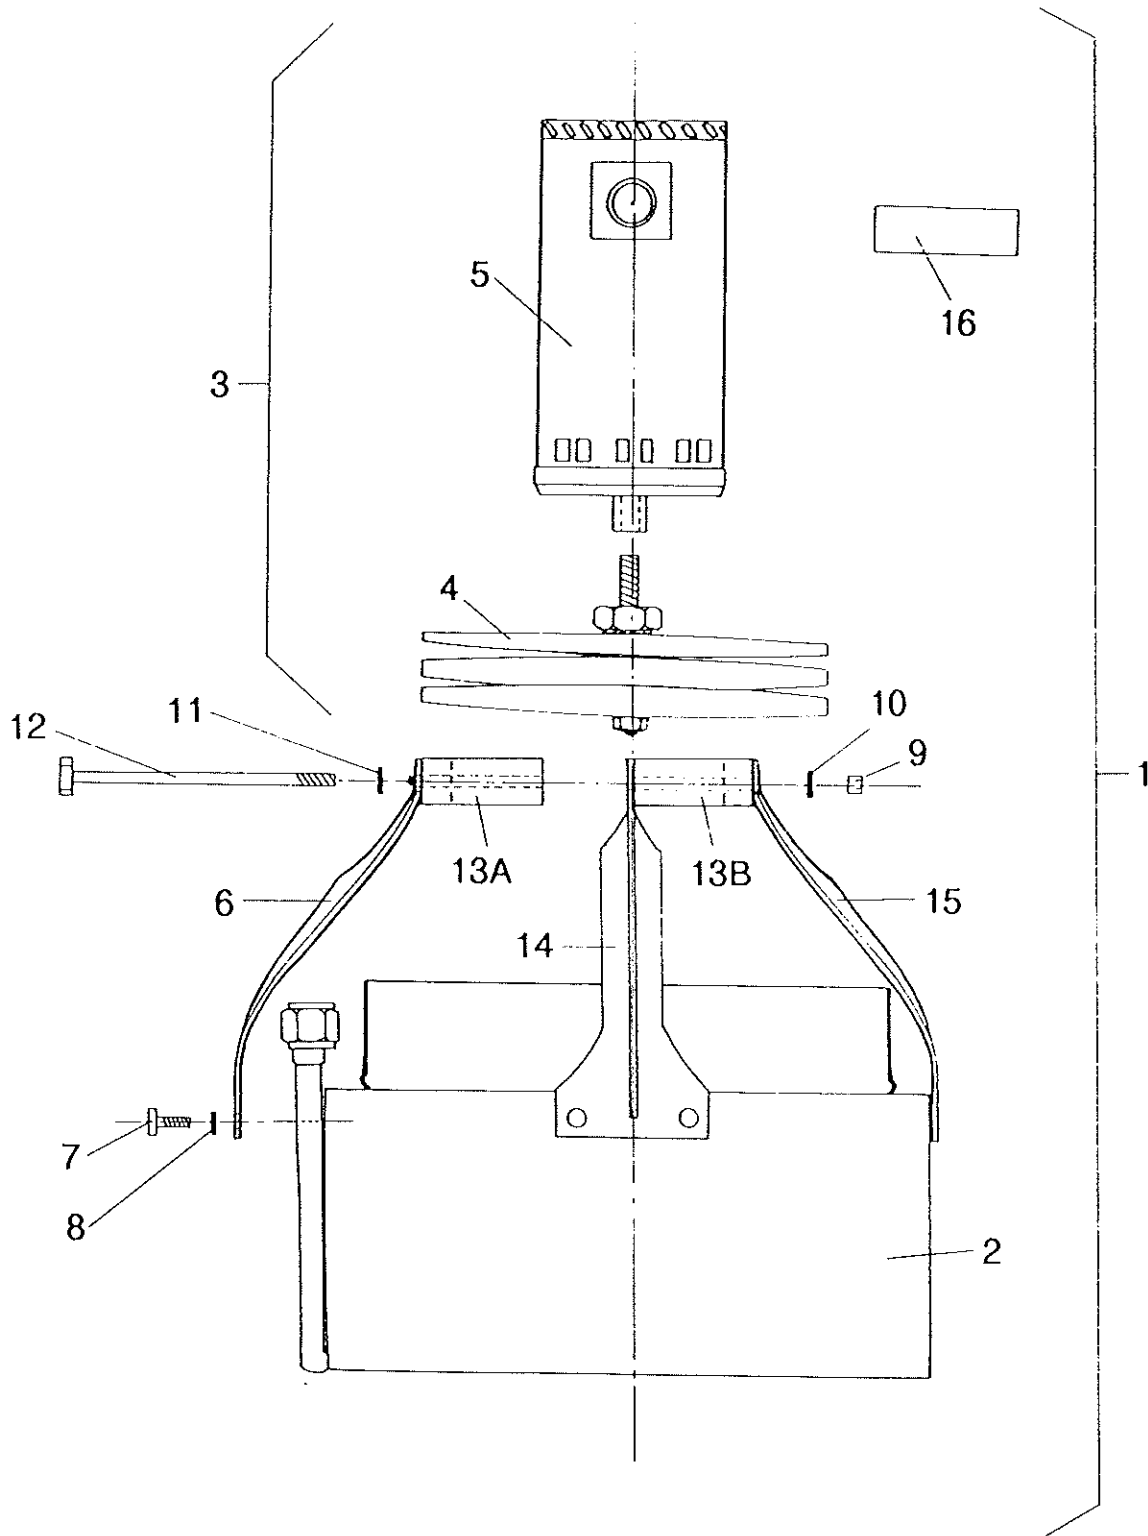
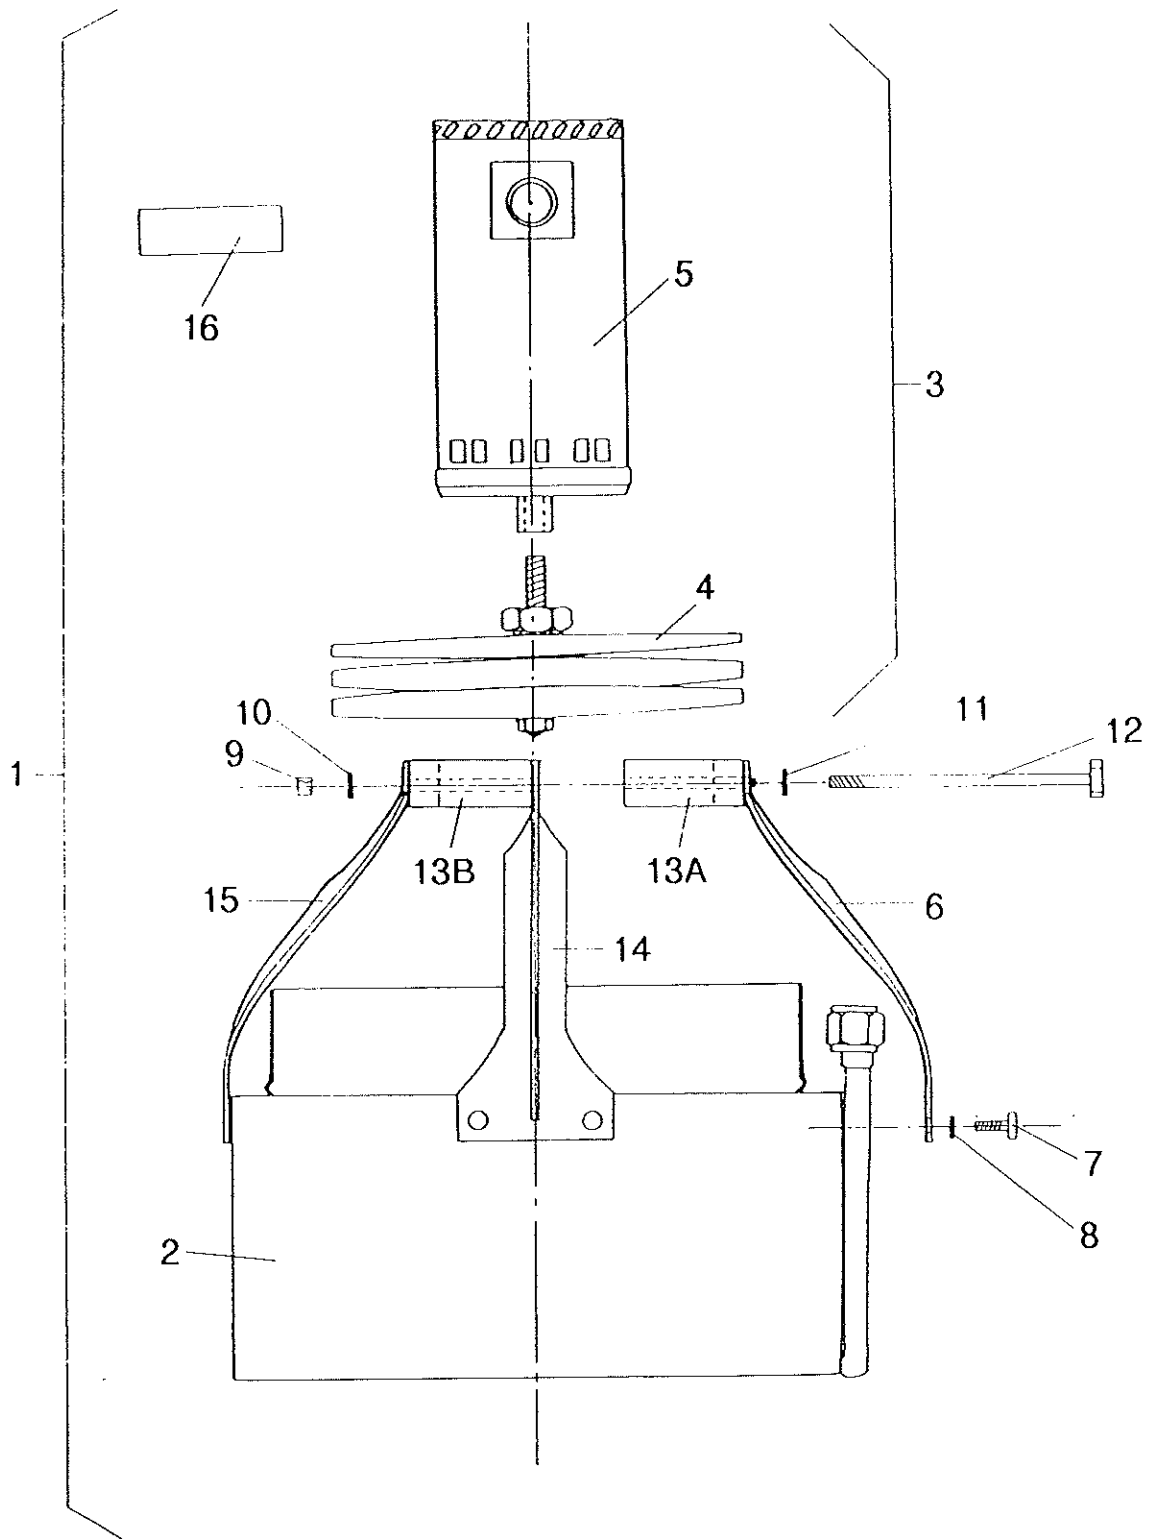

FIGURE 1
FIGURE 2
6.2 To install the motor and fan assy (1-2,2-2) on the coil assy (1-2,2-2) place the motor assy in block (1-13A,2-13A). Align block (1-13A,2-13A) with block (1-13B, 2-13B) place the bolts (1-12,2-12) and washers (1-11, 2-11) in the blocks attach the nuts and washers (1-10,2-10,1-9,2-9) finger tight only. DO NOT TIGHTEN THEM AT THIS TIME. Next, secure the stiffener (1-6,2-6) to the coil assy (1-5,2-5) tighten bolts (1-7,2-7) and washers (1-6,2-6), torque to 20in-lbs (Reference Section 4.0). Alight the motor cannon plug as shown in FIG.1/2 and place the SZ84-A tool between the block (1-13A,2-13A) and the base of the cannon connector on the motor (1-4,2-4). This spacing is critical to proper fit and operation of the assembly. Now tighten and torque the bolt (1-12,2-12) which is under the motor cannon plug and closest to stiffener (1-14,2-14). Torque this bolt FIRST to 20 in-lbs (Reference Section 4.0). Now tighten and torque the second bolt (1-12,2-12). Take care to comply with the torque tolerances in Section 4.0. Care should be taken to insure the fan is clear of fins and is free to rotate.
9.0.1 Refer to FIG.1, FIG.2 and FIG.3 on pages 11 through 16.
10.1.9 ILLUSTRATED PARTS LIST: Use FIG.2.